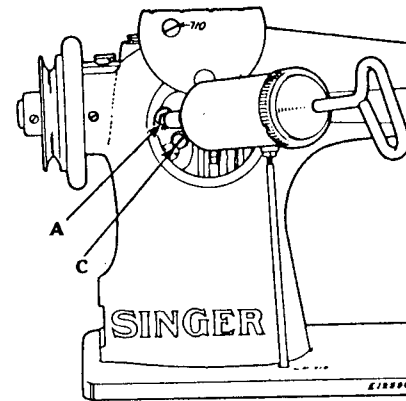

Fig. 4
Replenish the gear cases at (A) and (B), Figs. 4 and 5 with Singer Gear Lubricant every 160 hours of operation.
To supply grease to the upper gear case (Fig. 4), have the machine in its normal working position, remove the level hole screw (C, Fig. 4) and force the lubricant into the Alemite fitting (A, Fig. 4) until it emerges from the level hole at (C), then replace the screw (C).